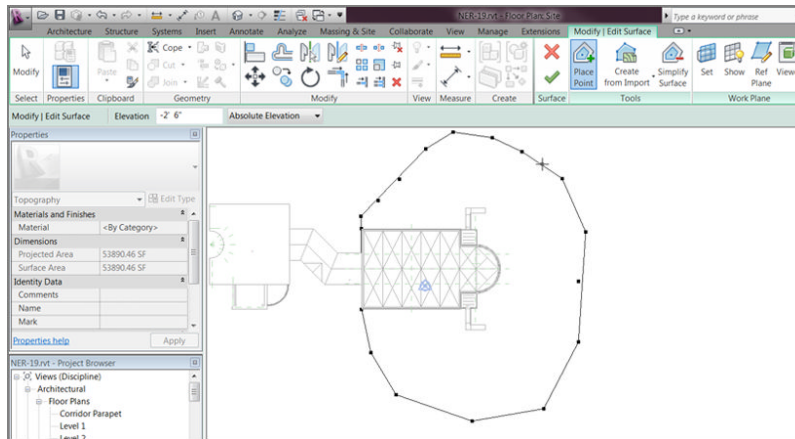

FIGURE 18.2: Adding the first contours
6. Pick points in a pattern to the right half of the building, as shown in Figure 18.2.